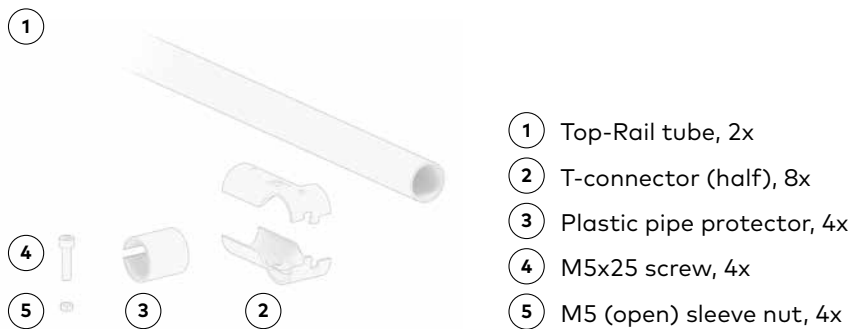
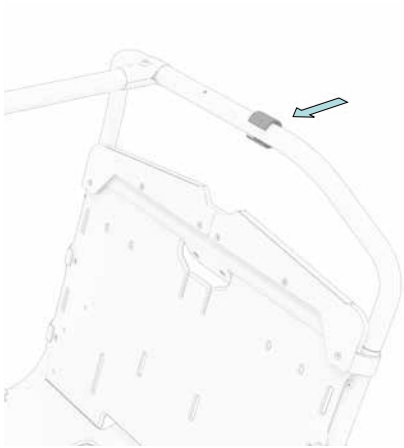

Fig. 2
Fig. 3
First place the T-connector around the Cross-Bars, making sure that the plastic protector (Fig. 3) is correctly positioned between the sheet metal halves of the T-connector and the pipe. Loosely tighten one of the M5x25 screws (fig. 2, item 4) first.